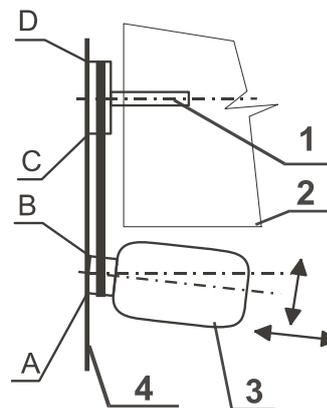

Fig.5.9.
A precondition for the reliable operation and long service life of the belts is a proper pulley alignment. Do the inspection of the alignment by means of a ruler, fig.5.9. pos.4 with placing it on the pulley faces. If all points (A, B, C, D) are touching the ruler the pulleys are aligned. In other case the pulleys must be aligned.